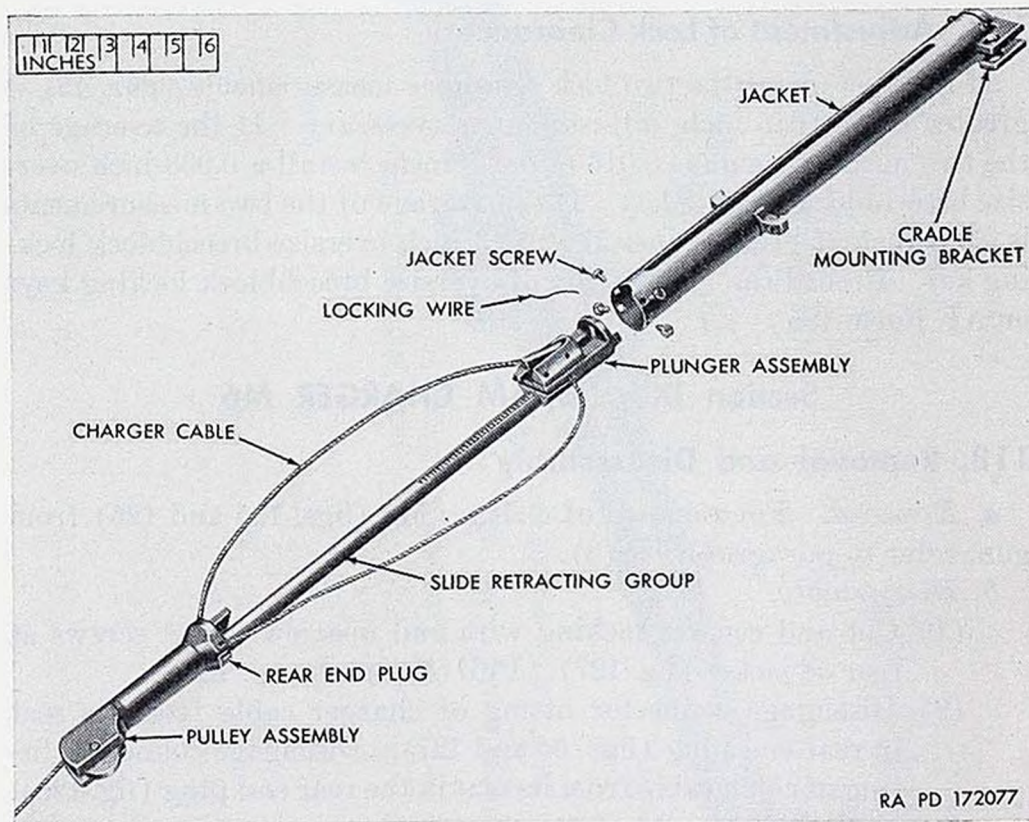

Figure 127. Component parts of 20-mm manual charger M6.
- (1) Cut and remove locking wire and unscrew jacket screws at rear of jacket (fig. 127). Pull off jacket (fig. 127).
- (5) Position connector fitting of charger cable in seat of rear end plug and pass free end of charger cable around latch pulley in plunger assembly, through plug and around sheave of pulley assembly (fig. 127).
- (6) Push assembly unit into jacket, being careful to aline latch of slide assembly with slot in jacket (fig. 127). Install the
four jacket screws and secure them with locking wire (fig. 127).